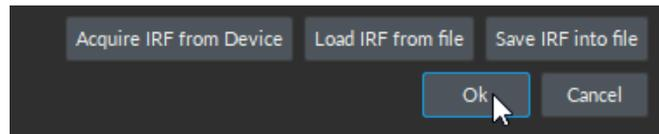

Figure 3.15: Select OK to save IRF
- Once you've obtained a waveform of an appropriate range then select *Ok* (Fig. 3.15). This saves the IRF, which will be used in the live deconvolution algorithm. Each time you change the detector gain or laser power, you **MUST** retake the IRF before (or after) the recording.